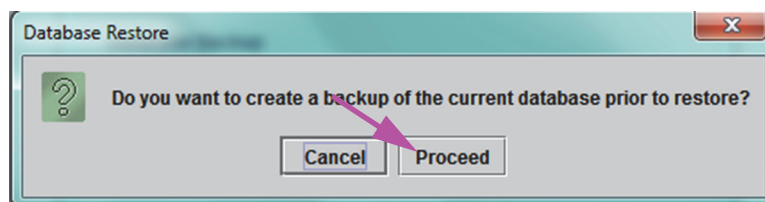
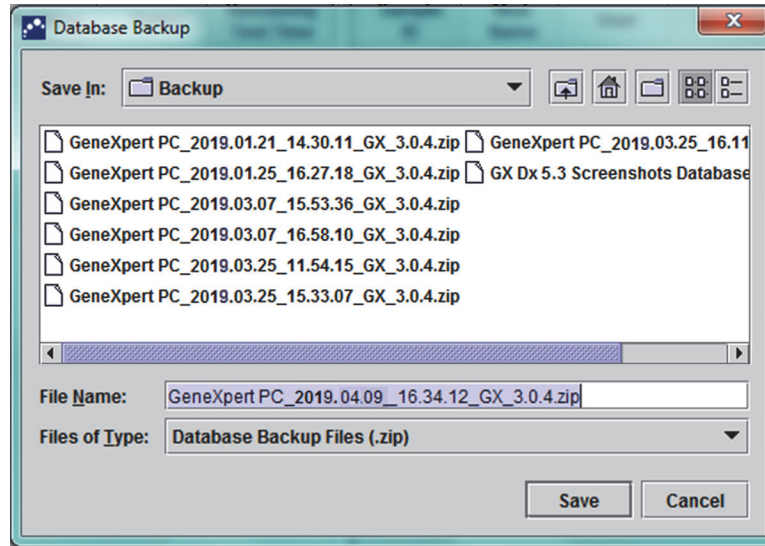

Figure 5-67. Database Restore Dialog Box
Figure 5-68. Database Backup Dialog Box
2. Click **Proceed**. A dialog box appears asking if you want to back up the current database (recommended) before restoring. See Figure 5-67.
3. Click **Proceed** in the Database Restore confirmation dialog box to continue with the database backup (see Figure 5-67). The Database Backup dialog will be displayed. See Figure 5-68.
4. Locate and select the folder in which you want to store the backup file, type a name for the backup file (or use the default filename) and click **Save**. See Figure 5-68.